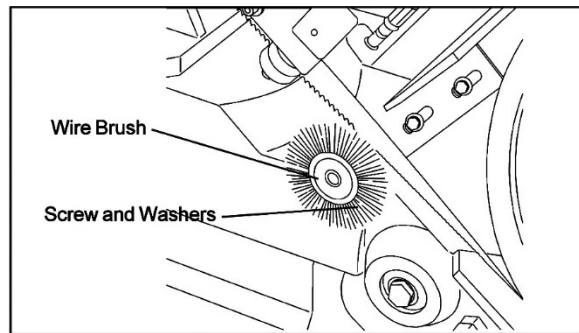

Figure 20: Wire brush
2. Remove attaching screw, spring washer and washer. Remove and discard brush (see Figure 20).